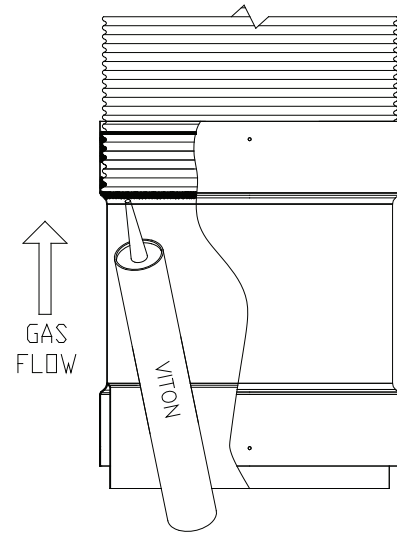

Figure 19- Secure Seal Flex assembly
2.2. Push the adapter on the liner all the way in, until you can't see the mark made on the flexible liner earlier (Figure 19). Make sure that the Viton® caulking is sealed well at the joint inside the adapter by verifying inside the adaptor.